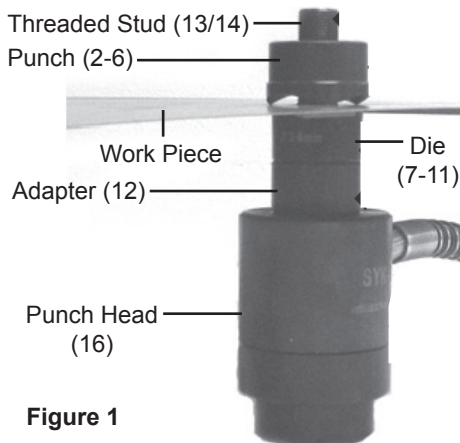

Figure 1
- The 7/16" Threaded Stud is to be used with Punch (2) and Die (7).
- Thread the Threaded Stud into the Punch Head (16). Note that the end with the shorter threads is threaded into the Punch Head. See Figure 1.
- The Adapter (12) is to be used with all Punch and Dies that are used.
- Slide your work piece with the drilled hole down onto the Die, as shown in Figure 1.